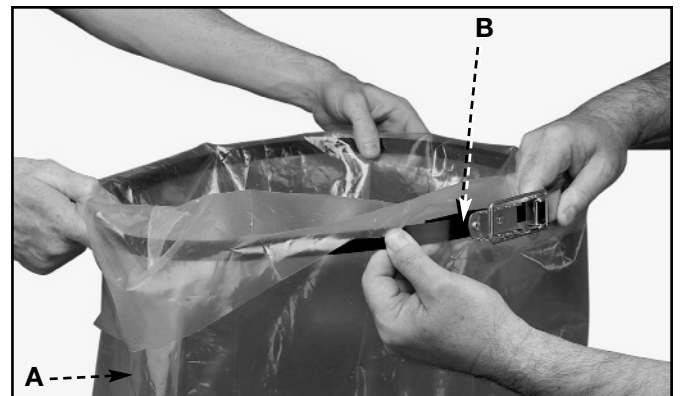

Fig. 10
The plastic bag can also be attached to the outside of the dust collector using the included clamp (B) Fig. 10:
1. Place clamp (B) around top of plastic bag (A) and fold about 4 to 6 inches of plastic bag over the clamp as show in Fig. 10.